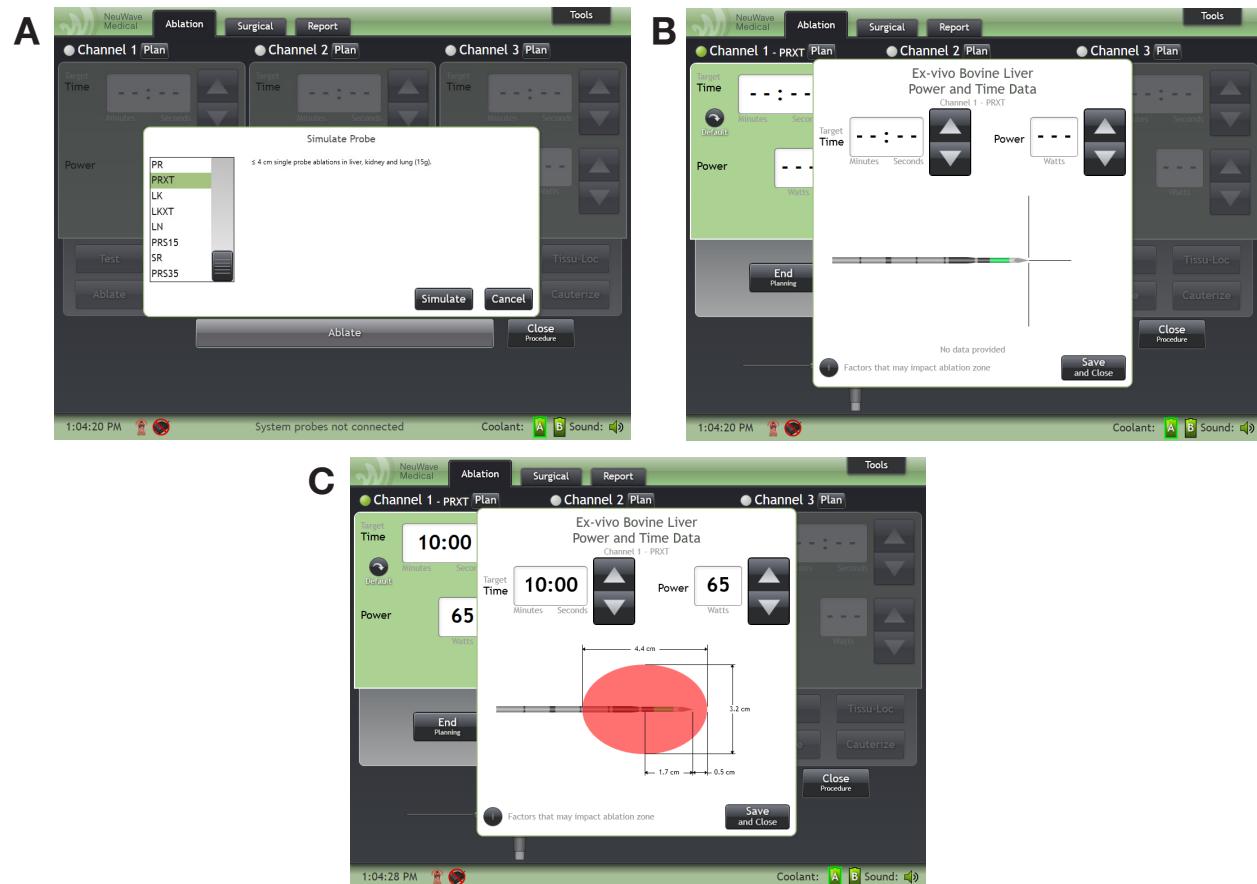

Figure 3-22: A, B, and C show the planning screens for a software simulation to project the ablation zone dimensions using a PRXT probe at 65 W for 10 min.
Figure 3-22 (A, B, C) shows the workflow to access the on-screen power and time. (A) Select a Probe type to simulate an ablation. This will activate the time and power settings screen. (B) Enter desired time (min:sec) and power (W). When the Ablation Visualization Window appears (C) Entering incremental units of time and power will depict the predicted ablation zone for the procedure.